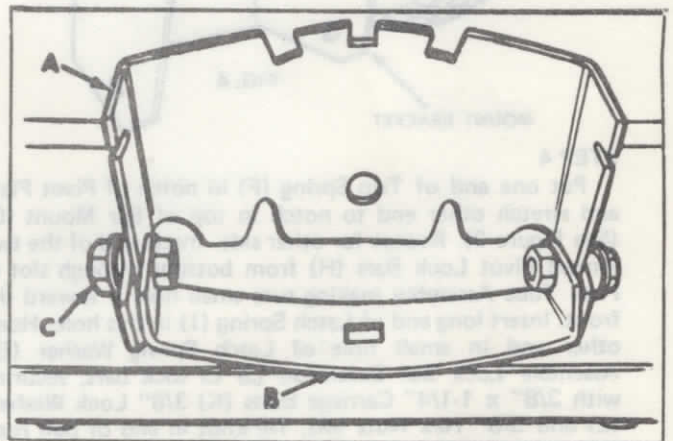

FIG. 2
Attach Upper Pivot Plate (A) and Lower Pivot Plate (B) to Blade using two 1/2"-13 x 1-3/4" Hex Bolts (C), two 3/4" x 7/16" Pivot Bushings, two 17/32" Flat Washers and two 1/2" Hex Lock Nuts (See Figure 2).